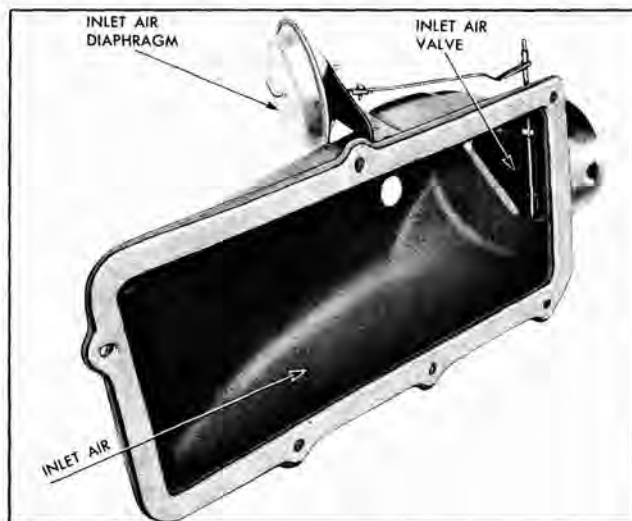

Fig. 1-24 Inlet Air Duct Assembly
4. Remove six nuts securing air inlet duct assembly and remove assembly and duct to housing sleeve. See Fig. 1-24.